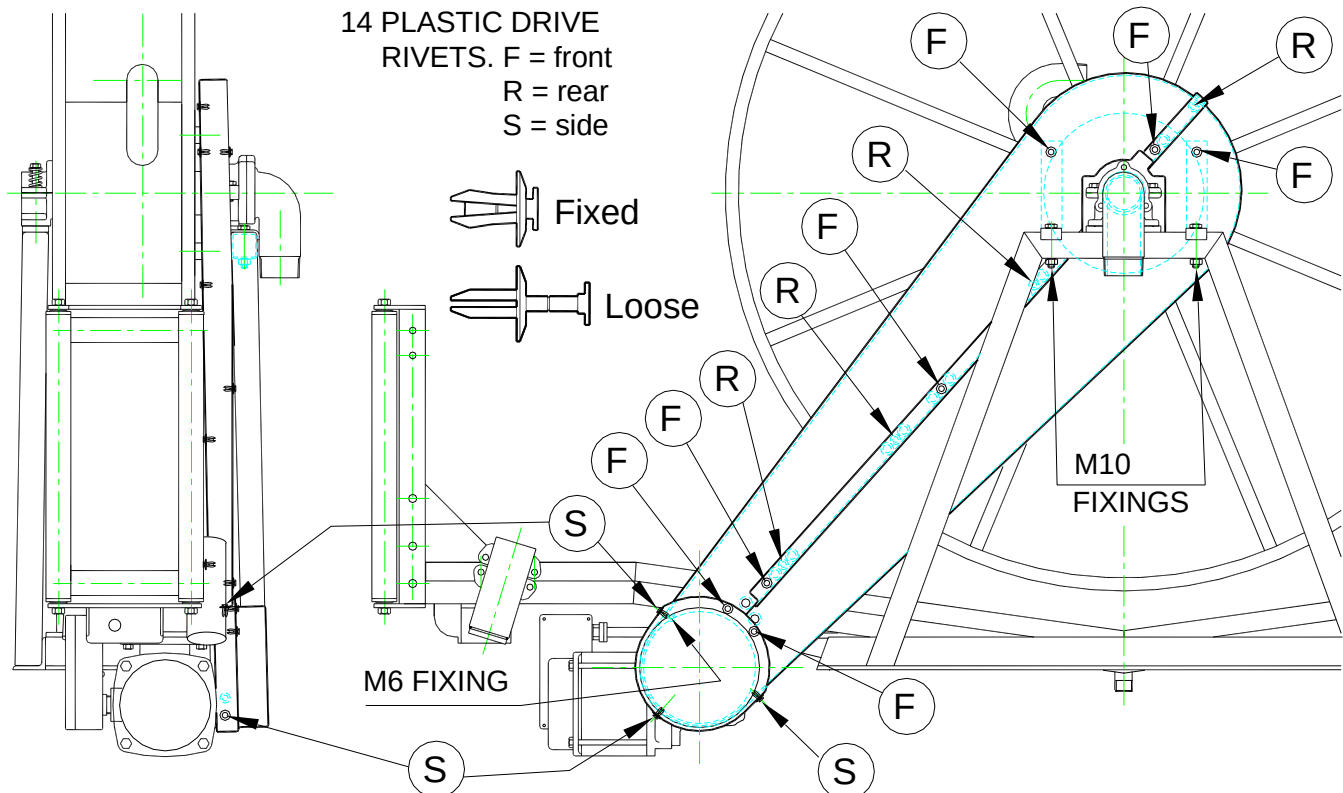

Figure 5 - Plastic chain guard
4.5.2.1 Isolate the electrical supply and remove the clutch guards as required, see figure 5 if a plastic guard is fitted.
4.5.2.10 Refit all guards upon completion. Refer to figure 5 if a plastic guard is fitted.